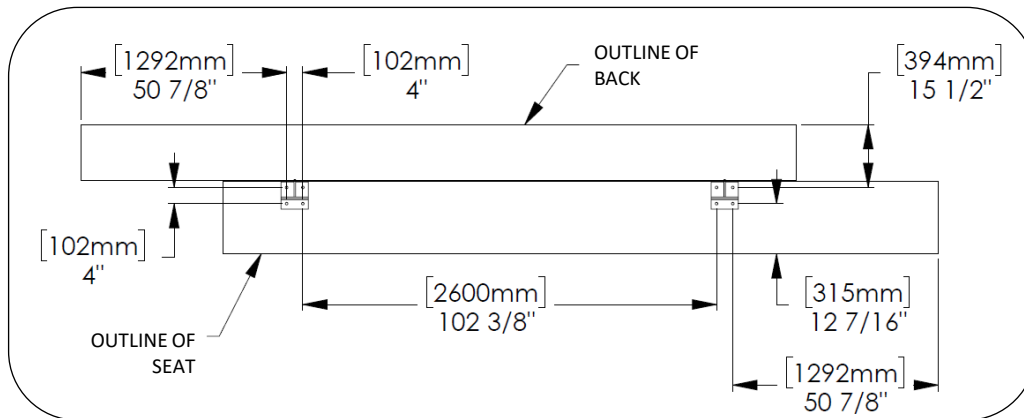

Fig. 4 – Hole locations for supports, plan view
2. Mark hole locations according to Fig. 4.